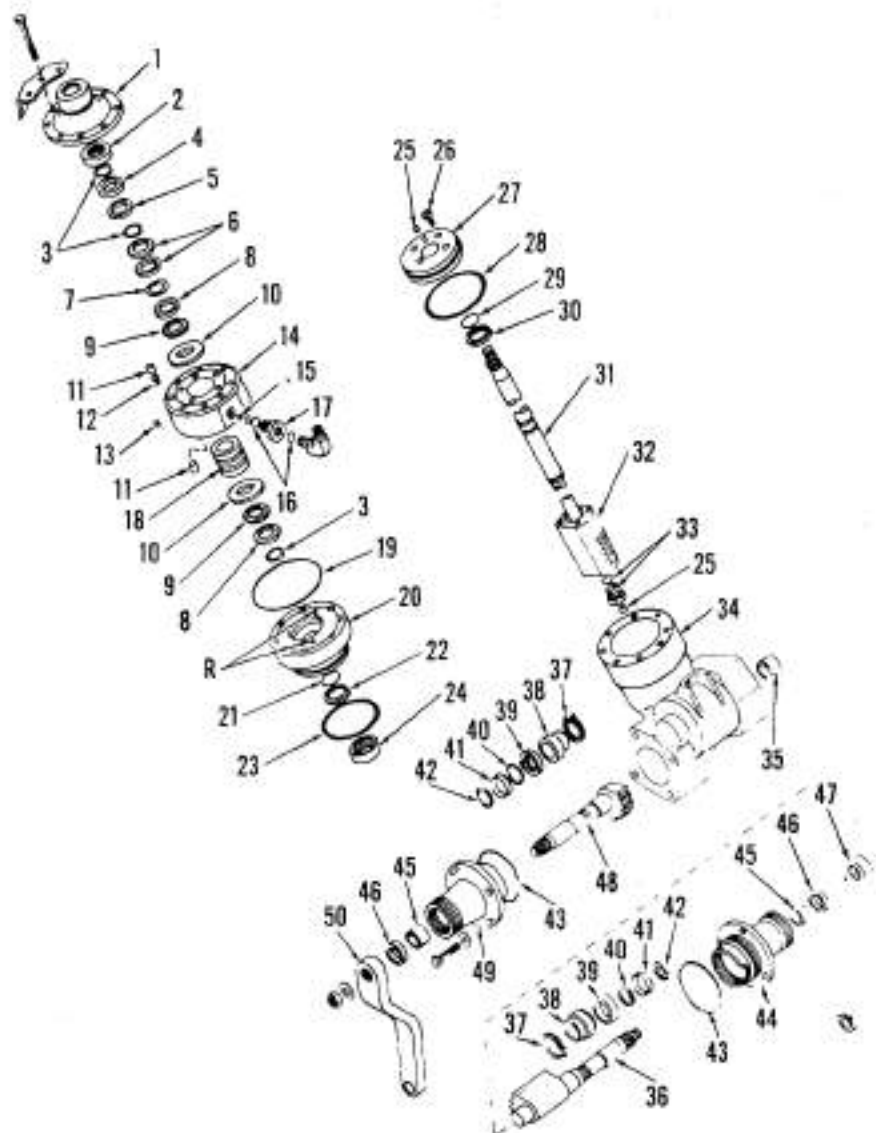

Fig. 12—Exploded view of power steering gear available on all MF230 models, all MF235 models except Orchard and MF245 Vineyard models.
12. OVERHAUL. To overhaul the removed unit, unbolt right side pinion housing (49—Fig. 12) and remove pitman shaft (48), housing (49) and related parts. Turn unit over and drain oil from housing, then unbolt and remove the left pinion housing (44), pitman shaft (36) and related parts. Mark control valve head (1), valve body (14), bearing housing (20) and steering gear housing (34) before disassembly to facilitate correct reassembly. Unbolt and remove control valve housing, head, bearing housing, steering shaft and rack unit. Unscrew piston (27) and rack (32) as a unit from shaft (31), then remove bearing housing (20).
To disassemble control valve and steering shaft, use caution and carefully identify parts as they are removed. Some parts used may be slightly different than shown in Fig. 12. Remove top snap ring (3), washer (4) and seal (5). Remove second snap ring (3) and lift parts (6, 7, 8, 9 and 10) from shaft. Remove valve body (14) from valve spool (18). Be careful not to lose or damage parts of plungers (11). Remove return fitting and adapter (17), being careful not to lose check ball (15).
Inspect all parts for wear or damage and renew if necessary. Install new seal (2—Fig. 12) in head (1) with lip of seal towards valve body and end of seal flush with edge of housing bore. Press new bushings (35 and 45) into housings until flush to 0.8 mm (1/32 inch) below flush with outer edge of bore. Lips of seals (46) should face inward. Some models use a washer and snap ring to retain seals (46) in housings. When renewing "O" rings (21 and 29) and seals (22 and 30) in bearing housing, be sure "O" rings are installed under the seal rings.
to place. Install washer (4—Fig. 12) with chamfer down over snap ring. Install top snap ring (3). Remove piston and rack from shaft.
Assemble parts (37, 38, 39, 40, 41 and 42—Fig. 12) onto pitman shafts before installing shafts into pinion housing. Adjust thickness of shims (40) as necessary to remove all end play from bearing (39).
Adjust gear backlash as follows: Rotate the right pinion housing (49—Fig. 12)